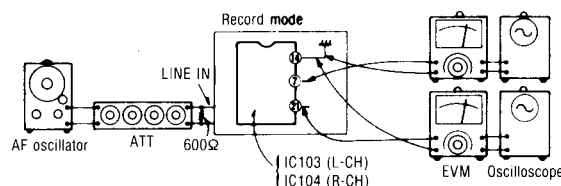

Fig. 18
1. Make connections as shown in fig. 18.